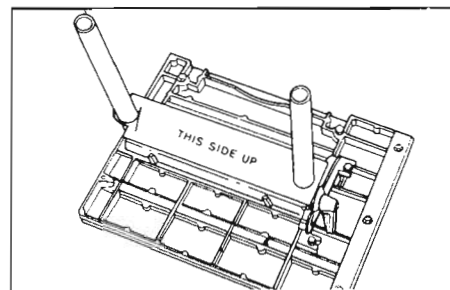

Figure 1. Positioning the template.
b. Place the template over both table tubes with the words "THIS SIDE UP" facing up and the angled slot at the outfeed tube. (See Figure 1.)